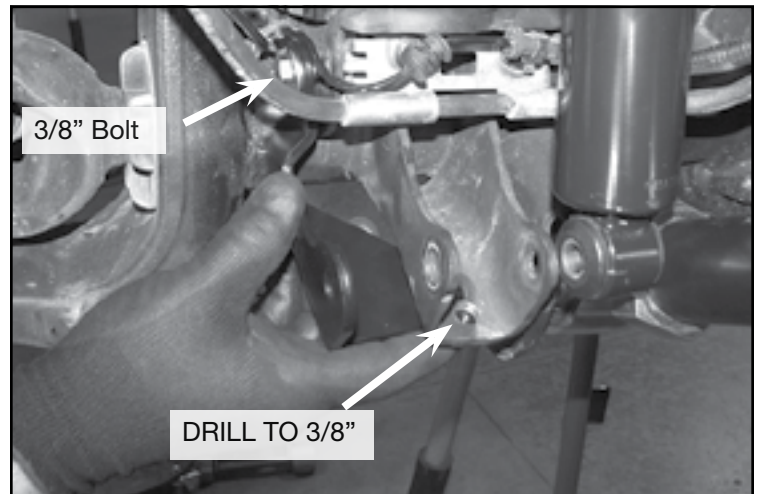

FIGURE 19 - STEP 17
17. Locate FT50619 (Lower driver shock bracket). Loosely install using the supplied 3/8" x 1-1/4" bolt, washer and FT83105 (Nuttab). Using the new bracket as a guide, mark the bottom hole on the lower shock bracket. Remove and drill to 3/8". **SEE FIGURE 19**